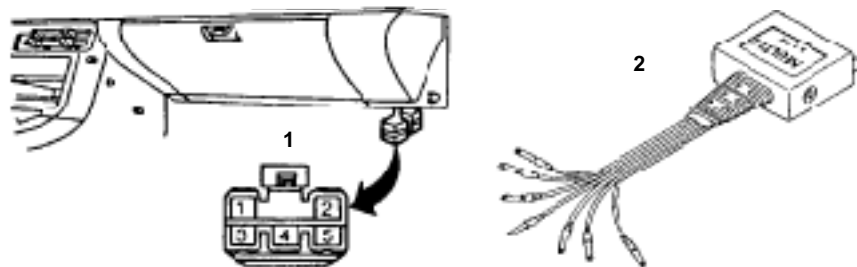

Figure 7-8 1992–94 Storm 1.8L connector and adapter
- Connect the MULTI-1 adapter to the 5-pin connector under the glove box (Figure 7-8).